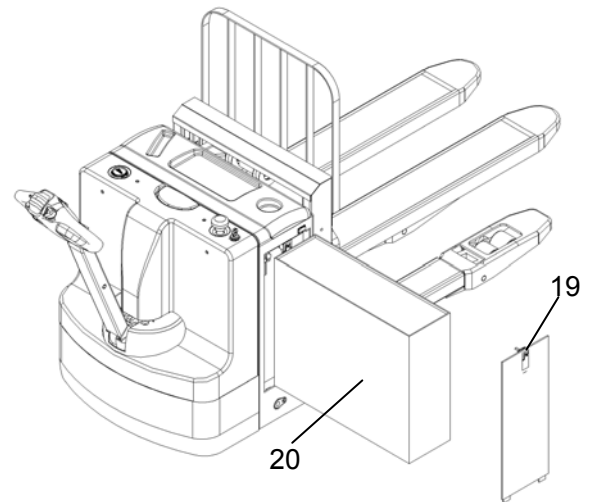
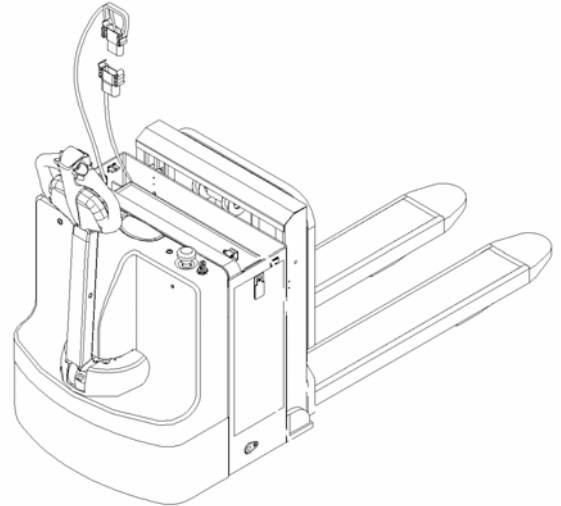

Fig. 10: Battery replacement
Fig. 12: Battery charging
Park the truck securely and switch off the truck with the key switch (Fig. 1, pos. 7), and push the emergency button (8). Remove the battery plug (Fig. 12) and the battery lock (19). Take the battery door (14) away, then pull out the battery (20) according to fig. 10 to the securely parked and docked battery exchange system, if you would like to exchange to the side.